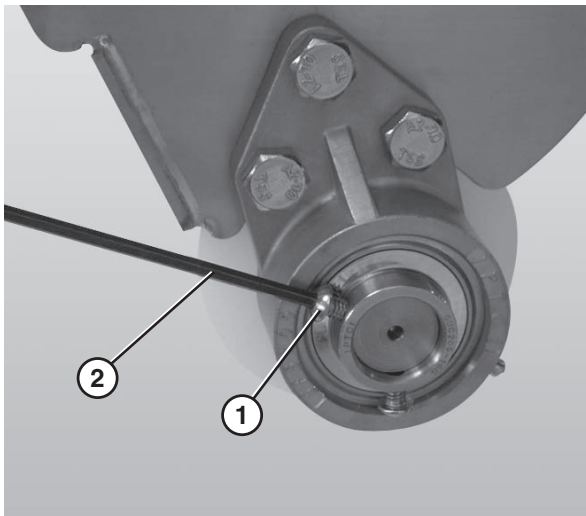

Figure 71
6. Remove the bearing cover and loosen the 3 hole flange (**Figure 71, item 1**) with bearing fasteners using a hex wrench (**Figure 71, item 2**).